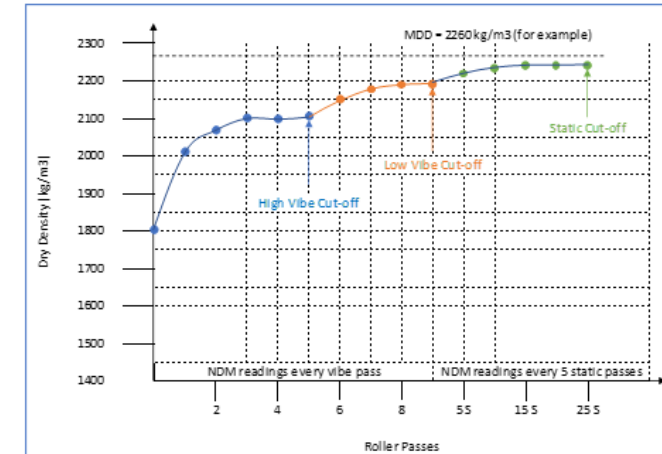

Figure 3: Plateau Density test – results presentation and compaction cut-off points
- 8) Continue this sequence until the dry density measurements hover or drop slightly as shown in Figure 3 - this is the high vibe cut off.